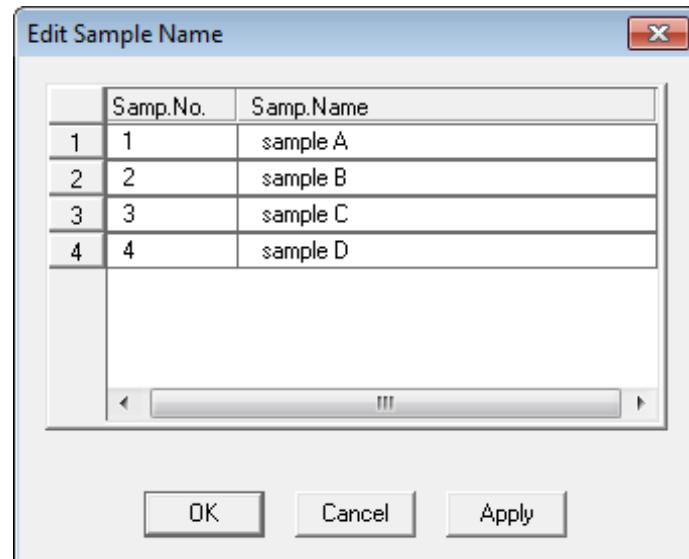

Fig. 4-58
- (c) Enter sample names as shown in Fig. 4-58 and click the **Apply** or **OK** button.